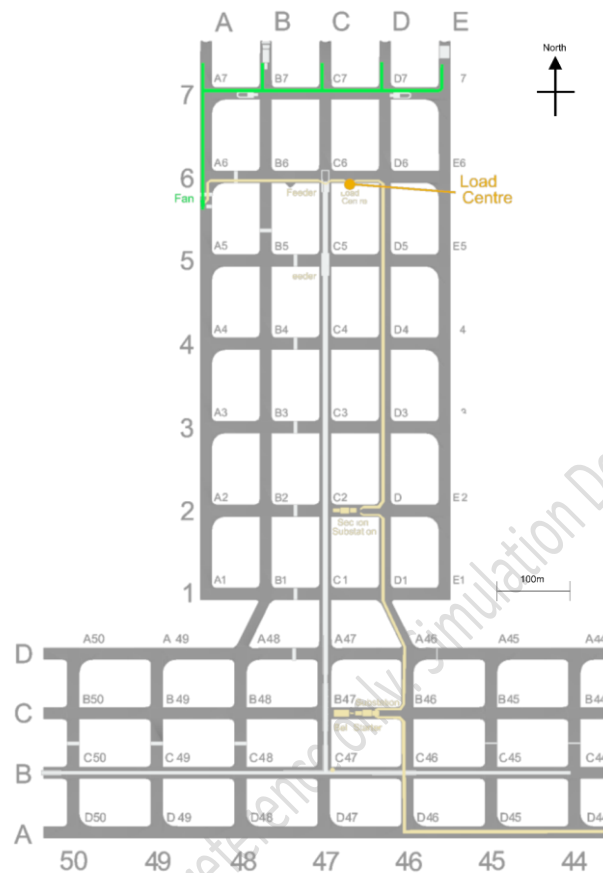

Figure 1. A generic layout of a five heading coal mine development panel.
Figure 1 shows a generic layout of a five heading coal mine development panel. The panel is derived from a real underground coal mine. The headings are designed as a room and pillar configuration. This method may be used for production and also as a method for developing access to longwall coal mine panels located elsewhere in the mine and access via two heading development panels. This will be discussed later in other problems that students must solve.
3. Study the mine plan of Figure 1 and try to build a picture of what this may look like in real life. Start to think about what equipment may be present and why? Think about the layout and why it is like it is? What issues may need to be managed and so-on?
You have a basic mine plan shown in Figure 1 and have been briefed on the surface by the Mine Manager who wants production established as soon as possible. However, you are a responsible undermanager and you need to investigate the mine panel and understand what infrastructure and equipment is available within the panel and assess how the mine deputy has been running the operations.